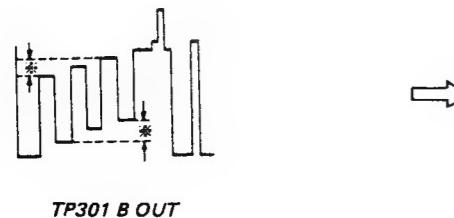

Fig. 12-2
- 5. Adjust RV4 of BD or BM board so that the output waveform as shown in Fig. 12-2.